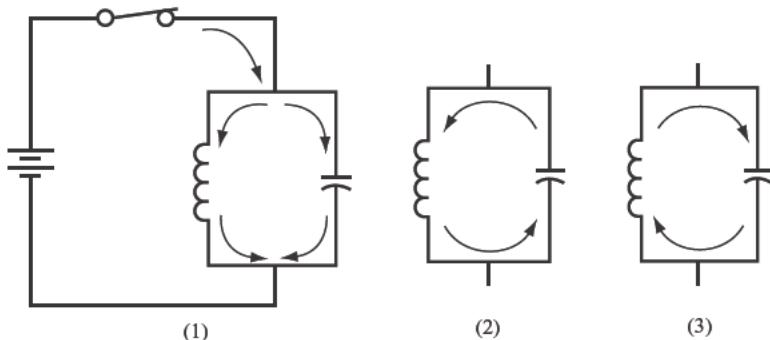

FIGURE 7.44
- 30** When the switch in the circuit shown in drawing (1) of Figure 7.44 is closed, current flows through both sides of the parallel LC circuit in the direction shown.
It discharges through the inductor. (Note the current direction, shown in drawing [2] of Figure 7.44.)
32 Because there is no current in the inductor, its magnetic field collapses. The collapsing of the magnetic field induces a current to flow in the inductor, and this current flows in the same direction as the original current through the inductor (remember that an inductor resists any change in current flow), which is shown in drawing (2) of Figure 7.44. This current now charges the capacitor to a polarity that is opposite from the polarity that the battery induced.
33 Next, the capacitor discharges through the inductor again, but this time the current flows in the opposite direction, as shown in drawing (3) of Figure 7.44. The change in current direction builds a magnetic field of the opposite polarity. The magnetic field stops growing when the capacitor is fully discharged.
Because there is no current flowing through the inductor, its magnetic field collapses and induces current to flow in the direction shown in drawing (3) of Figure 7.44.
- 34** When the field has fully collapsed, the capacitor stops charging. It now begins to discharge again, causing current to flow through the inductor in the direction shown in drawing (2) of Figure 7.44. This “seesaw” action of current will continue indefinitely.
This lost energy can be injected into the circuit by momentarily closing and opening the switch at the correct time. (See drawing [1] of Figure 7.44.) This would sustain the oscillations indefinitely.